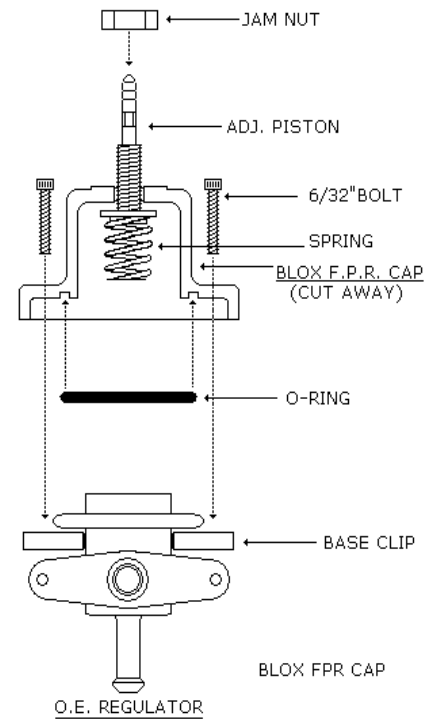

FIG. 2
5. Assemble as shown in FIG.2. Make sure to put ring into groove on underside of FPR "CAP". Make sure to line up the regulator properly.